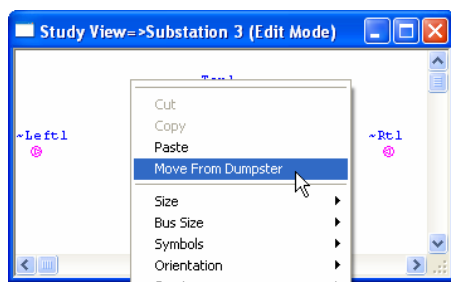

Fig. 9
9. Right-click anywhere inside the “Study View=>Substation 3 (Edit Mode)” window and select “Move From Dumpster” command. See Fig. 9